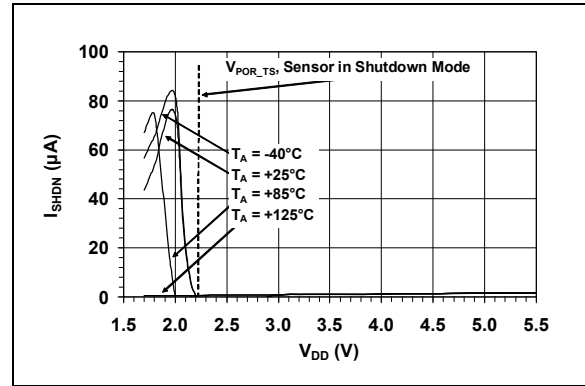

FIGURE 2-15: Shutdown Current vs. V_{DD} .
- 2:** For V_{DD} ranges of 1.8V to the temperature sensor V_{POR_TS} , the temperature sensor becomes partially biased and consumes 80 μA (typical) until the sensor POR resets and acknowledges a shutdown command. See Figure 2-15.